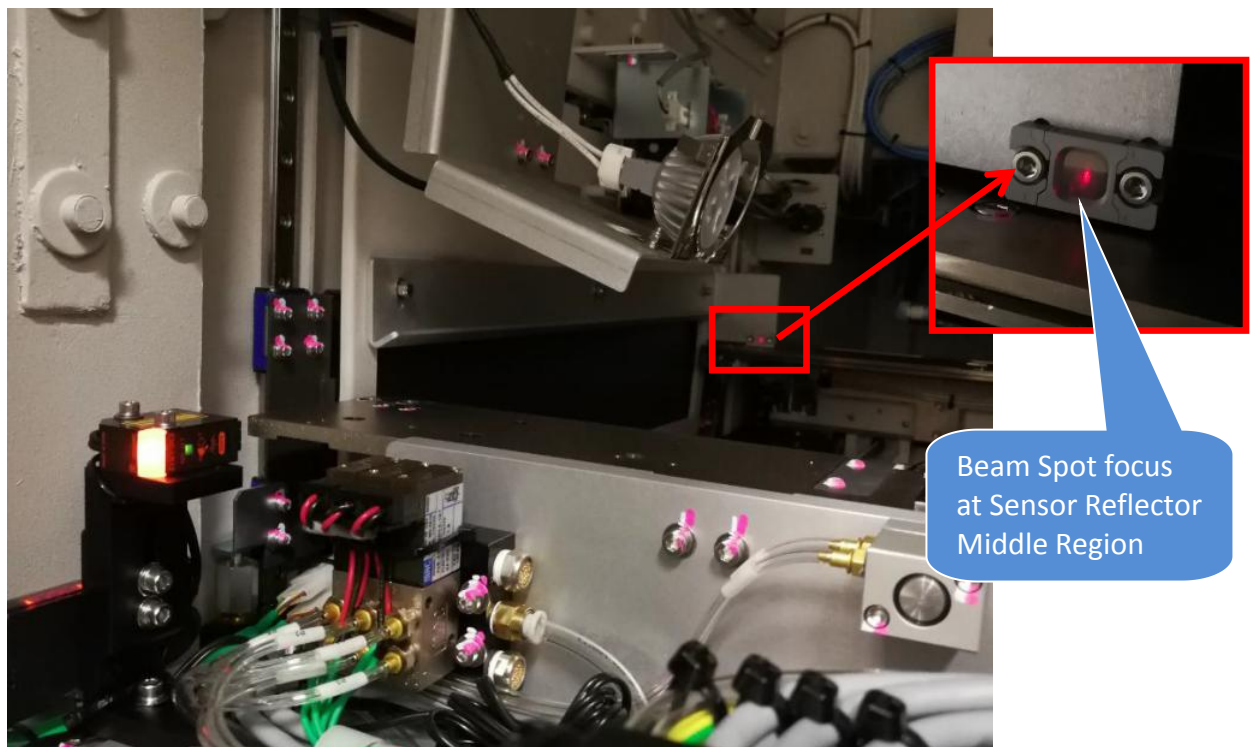

Figure 12 Left Loading Area
17. Remain XY stage at loading position. Open Sensor Amplifier Top Cover, Functional Button and Display Panel will illustrate as below Figure 12